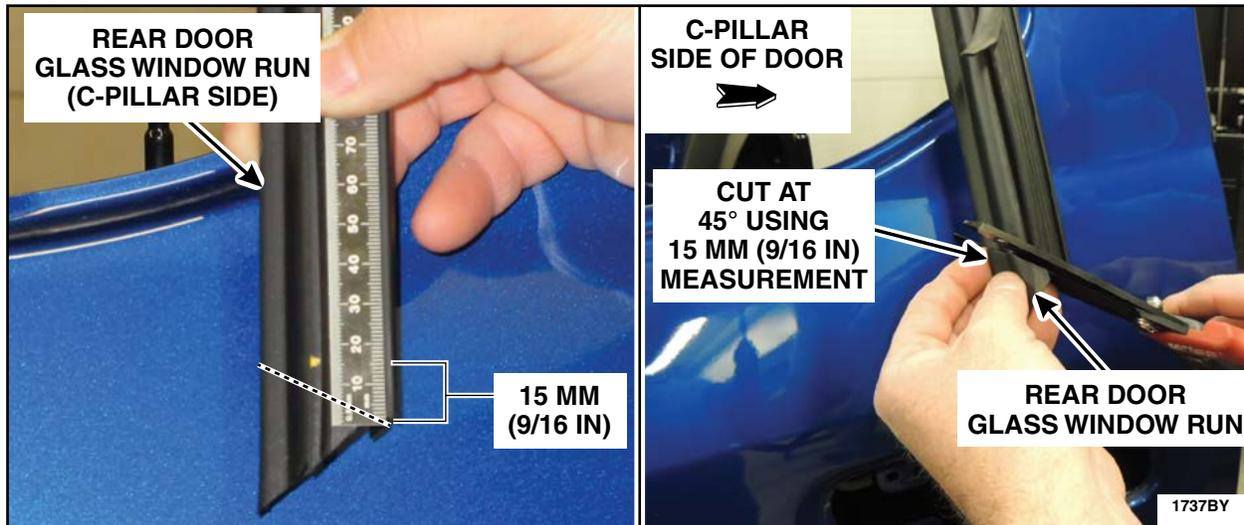

FIGURE 72
15. Modify the rear door glass top run. See Figure 72.